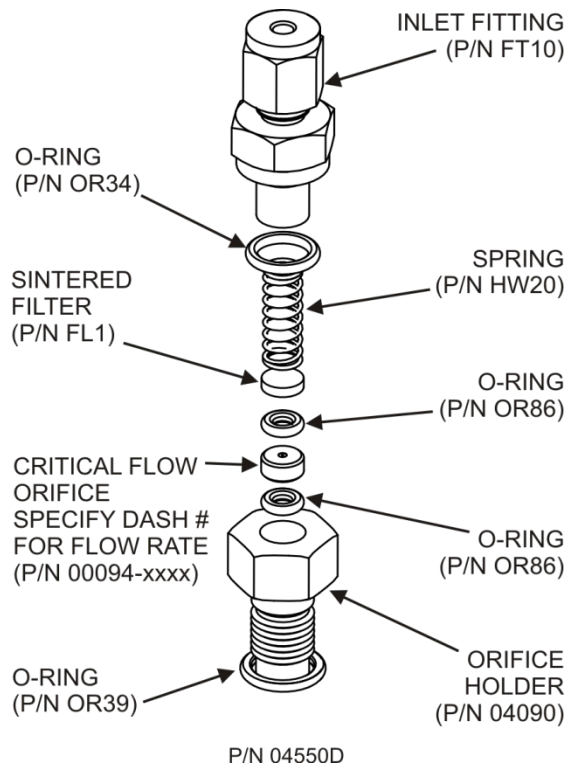

Figure 5-6. Critical Flow Orifice Assembly
8. Using a new filter and o-rings, reassemble the parts as shown in Figure 5-6.